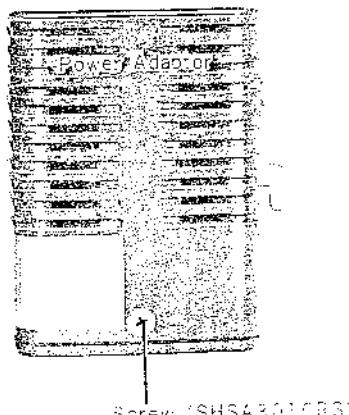

Fig. 17
1. Unfasten 2 screws fastening adaptor case indicated in Fig. 17. (both sides of adaptor case)